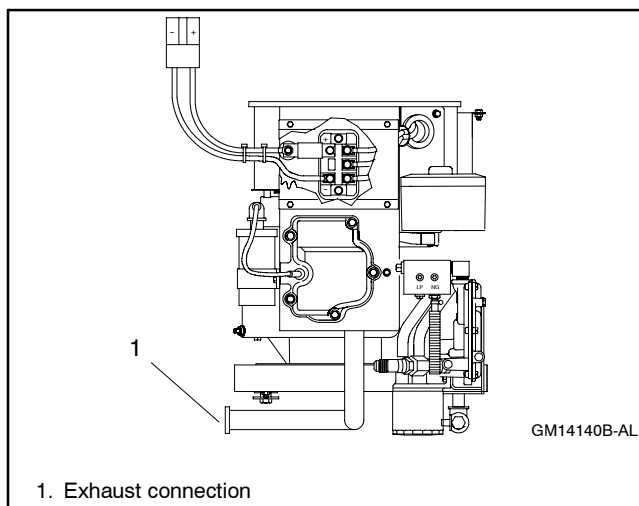

Figure 3-2 Exhaust Connection
Use the following procedure to gain access to the generator set for maintenance or service. See Figure 3-2 and Figure 3-3.
7. Disconnect the engine exhaust pipe at the location show in Figure 3-2.